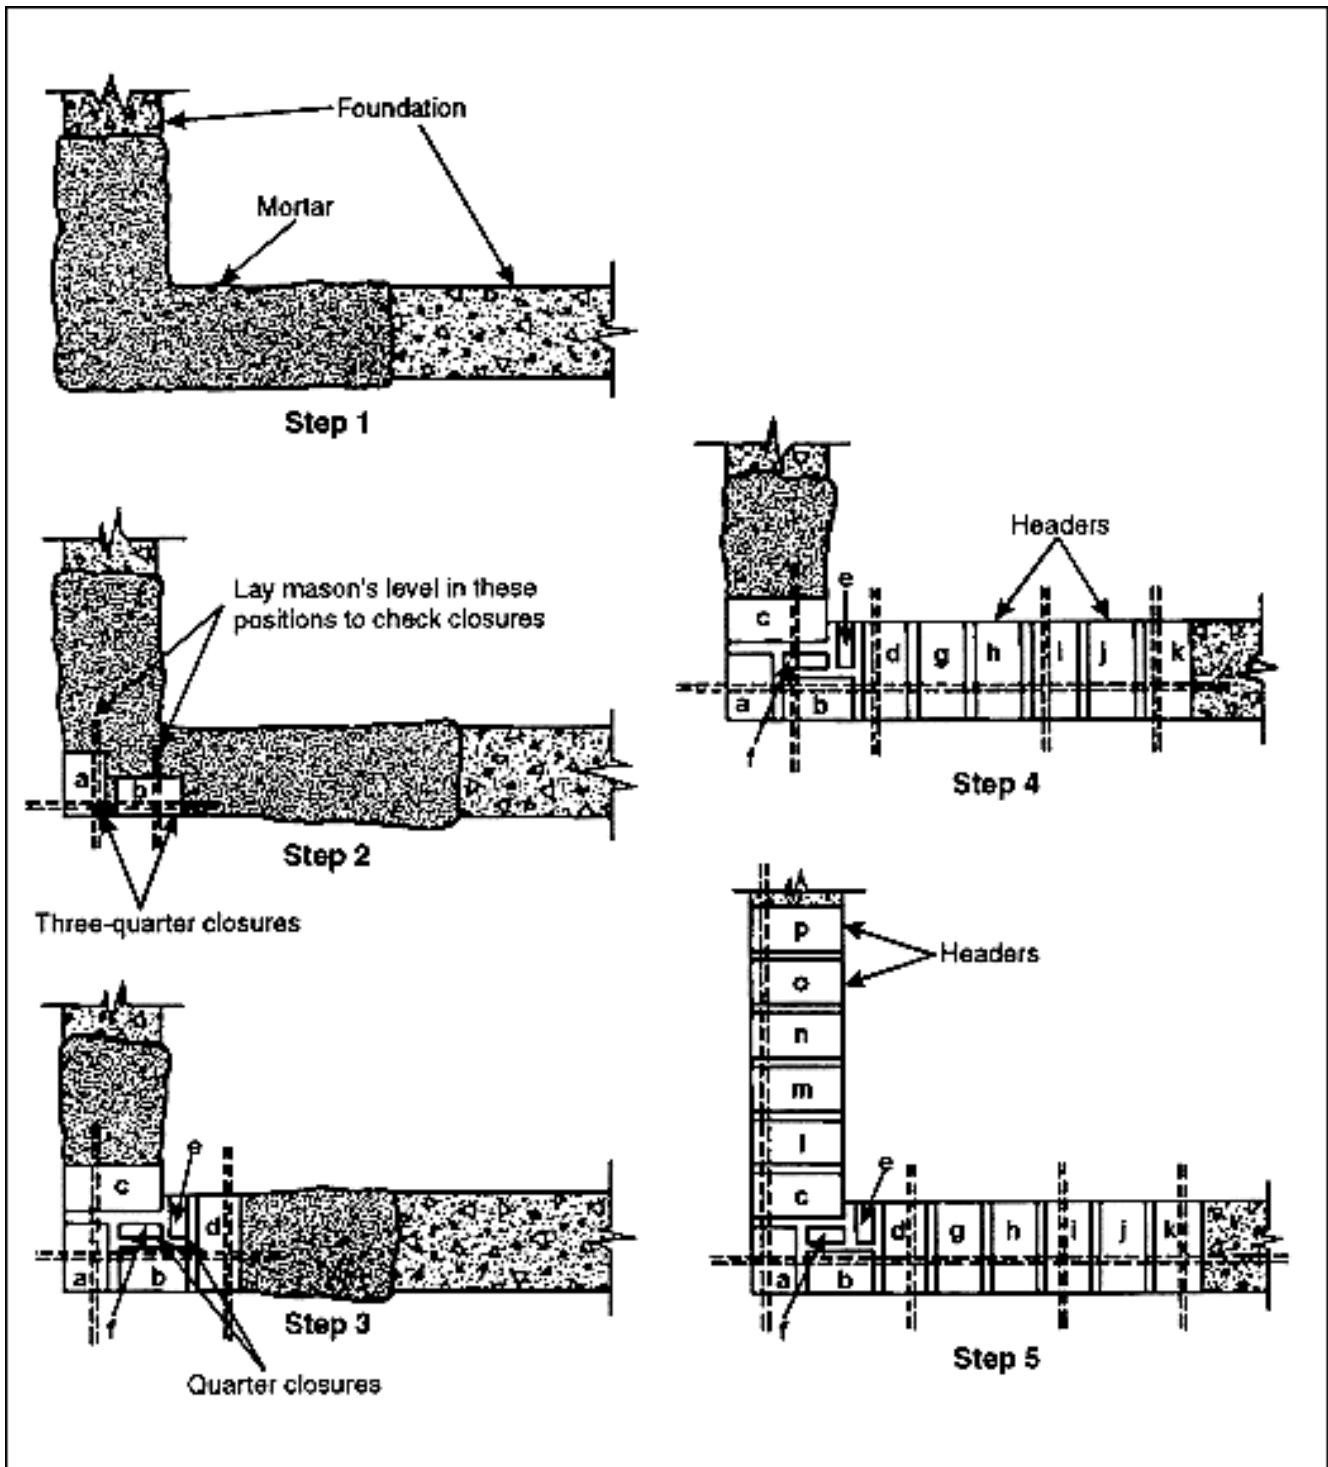

Figure 9-22. Laying first course of corner lead for 8-inch common-bond brick wall
9-46. Normally, the first course is a header course. Step 1 of Figure 9-22 below shows how to start laying a corner lead.
Step 2. Cut two three-quarter closures and press one into the mortar bed until it makes a bed joint 1/2 inch thick (see a in step 2 of Figure 9-22).
Step 3. Spread mortar on the end of the second three-quarter closure and form a 1-inch thick head joint as described in paragraph 9-29 (see b in step 2 of Figure 9-22).
Step 5. Lay a mason's level in the two positions shown in step 2 of Figure 9-22, and check the levels of the two three-quarter closures. The exterior edges of both closures must be flush with the exterior face of the foundation.
Step 6. Spread mortar on one bed of a whole brick (see c in step 3 of Figure 9-22) and lay it as shown.
Step 7. Check its level using the mason's level in the positions shown in step 3 of Figure 9-22. The end of this brick must also be flush with the exterior face of the foundation.
Step 10. Spread mortar on brick g (see step 4 of Figure 9-22), shove it into position as shown, and remove any excess mortar.
Step 11. Lay bricks h, i, j, and k the same way. Check their levels by placing the mason's level in the positions shown in step 4 of Figure 9-22. All brick ends must be flush with the foundation surface.
Step 12. Lay bricks l, m, n, o, and p in the same manner (see step 5 of Figure 9-22). You must lay 12 header bricks in the first course of the corner lead--six bricks on each side of the three-quarter closures a and b.